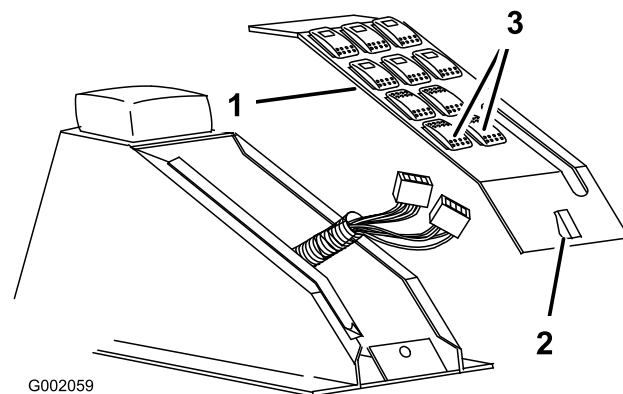

Figure 26
2. Release the latch and remove the switch panel assembly from the center console assembly (Figure 26).